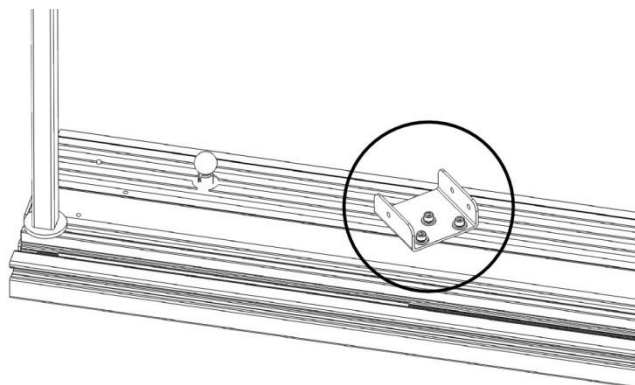

Fig. 5
2. For PCS and CNS saws ONLY: Attach the switch box mounting bracket (113) to the underside of the sliding table assembly using three M6x1.0x16 cap screws, three M6 washers and three M6 lock washers as shown in **Fig. 5**.